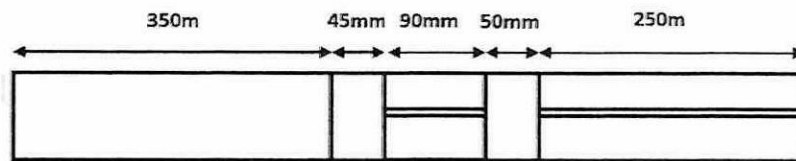

Figure Q3.1 BH1 at Tangkak site
- (a) At the Tangkak site, a single borehole labelled BH1 was drilled, and rock coring was conducted over a length of 1.5 meters. The rock core sample is presented in **Figure Q3.1**. Calculate the Rock Quality Designation (RQD), the total core recovery, and the solid core recovery.